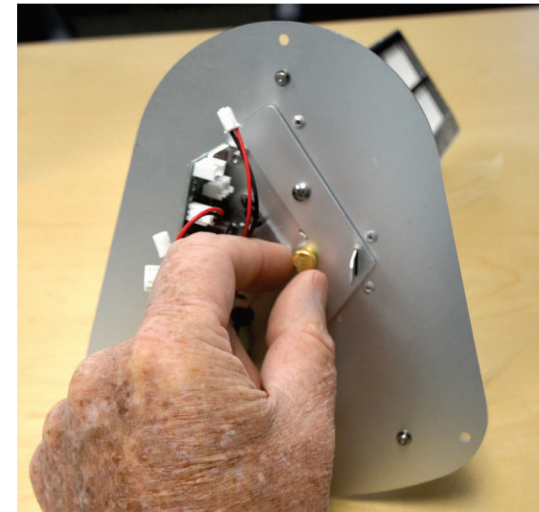

Figure 9
- Remove the brass thumb screw that holds the ceramic catalyst. Refer to **Figure 9**.